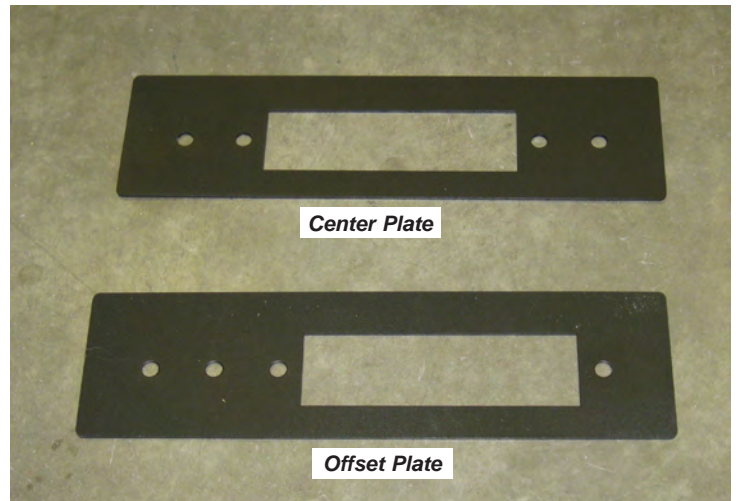

Figure 18
16. Install the fairlead plate. Use the centered plate if the winch will be mounted using the centered hole patterns. Use the offset plate if the winch will be mounted using the offset hole pattern. **DO NOT MIX THE PLATES.** Using the incorrect plate can damage the winch and/or winch rope. Figure 18.